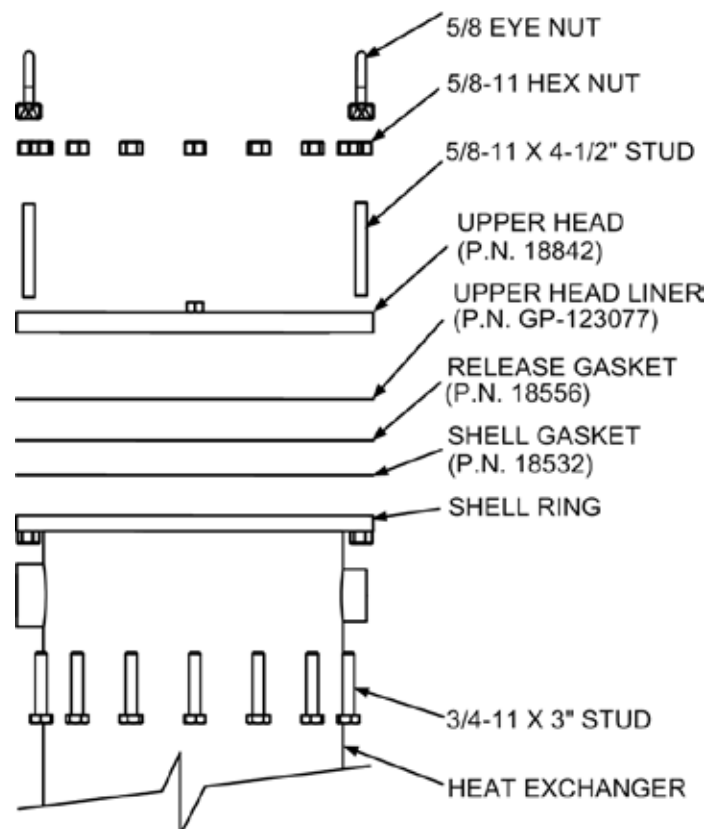

Figure 6-7. Flat Style Head Configuration
5. Remove the nuts and cap screws from the upper head. Remove the upper head and upper head-liner, (See Figure 6-7).